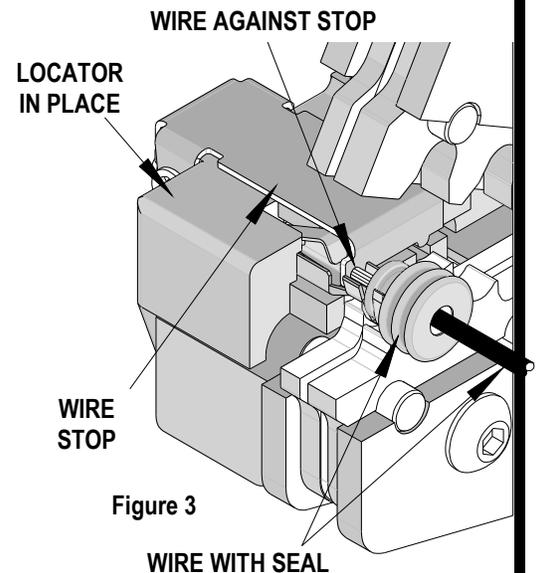

Figure 3
4. Return the locator to its original position. Insert the pre-stripped wire, with the seal over the terminal. Gently touch the wire stop with the end of the wire. See Figure 3.